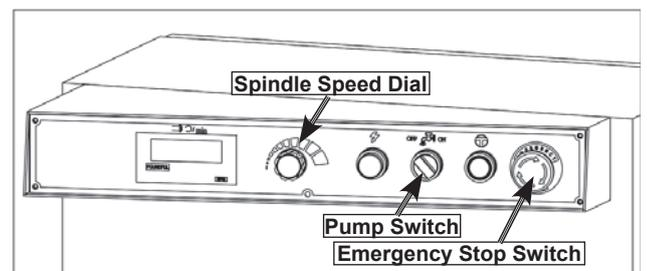

Fig. 15 Control panel
5. Turn the spindle speed dial (figure 15) to its minimum speed, and make sure the cross slide is backed out to avoid possibility of a high-speed start.